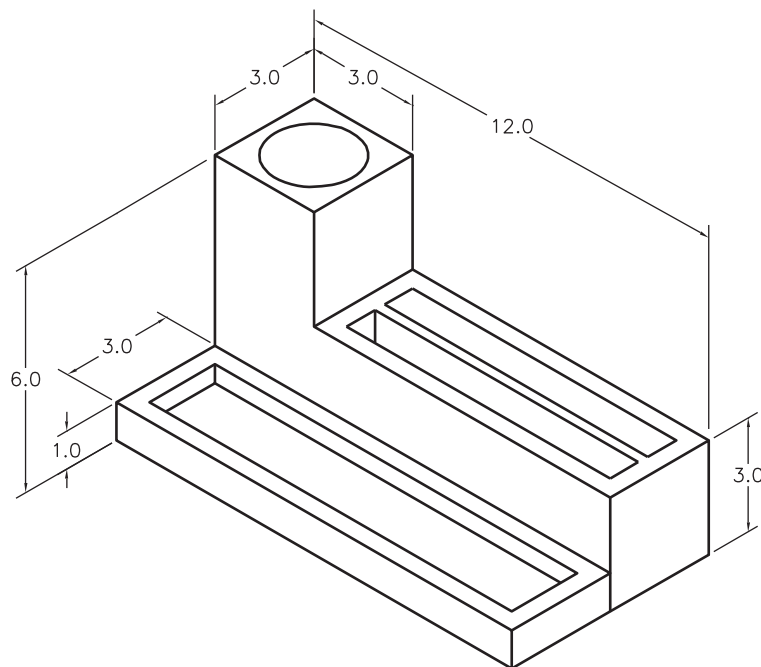

Fig. P9-1
Your company has sold the desk set shown in Fig. P9-1 for several years. Your supervisor has determined that it is time to modernize and streamline the desk set to meet current market demand.
1. Create a solid model of the desk set shown in Fig. P9-1. Include the round space to store pens, pencils, and the like; a large, flat, shallow area for items such as paper clips and rubber bands; and a medium-height section for a note pad, business cards, and similar papers. Wall thickness should range between **.1"** and **.185"**. Assign a plastic material to the model. Save it as **desk1.dwg**.